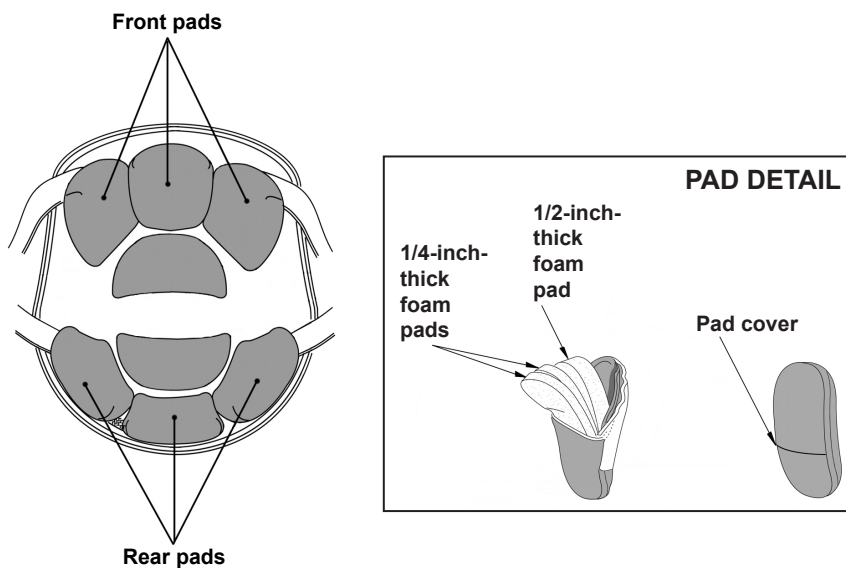

Figure 9. Adjusting Front and Rear Pads
3. Ensure that the helmet fit is snug and secure, yet comfortable. If the helmet is too tight, have the wearer remove the helmet, refer to **Figure 9**, and adjust the front and rear pads as follows: